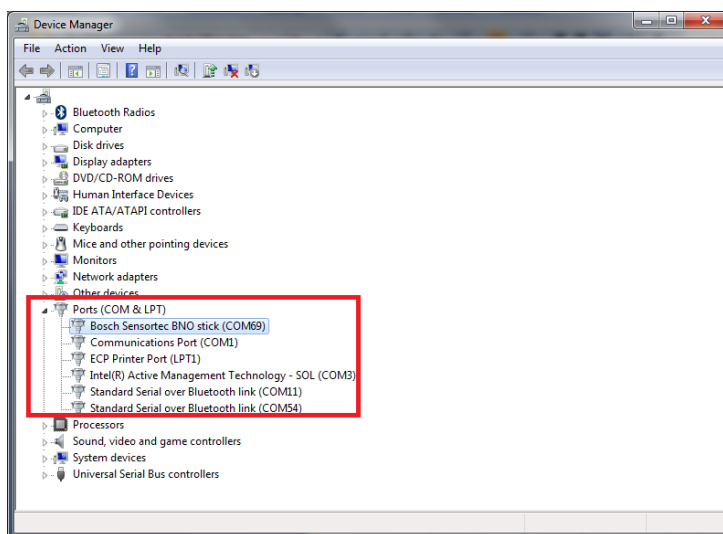

Figure 4 : Device Manager
- 1) Make a note of COM port number of Bosch Sensortec BNO stick under Ports in device manager, if the driver is installed successfully as “Figure 4”.
- 3) In Communication interface window, select “Figure 4” noted COM port number from communication channel drop down.